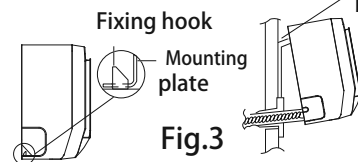

Fig.3
3. Hange the mounting slots of the indoor unit on the upper tabs of the rear panel and check if it is firm enough.(As show in Fig.3)